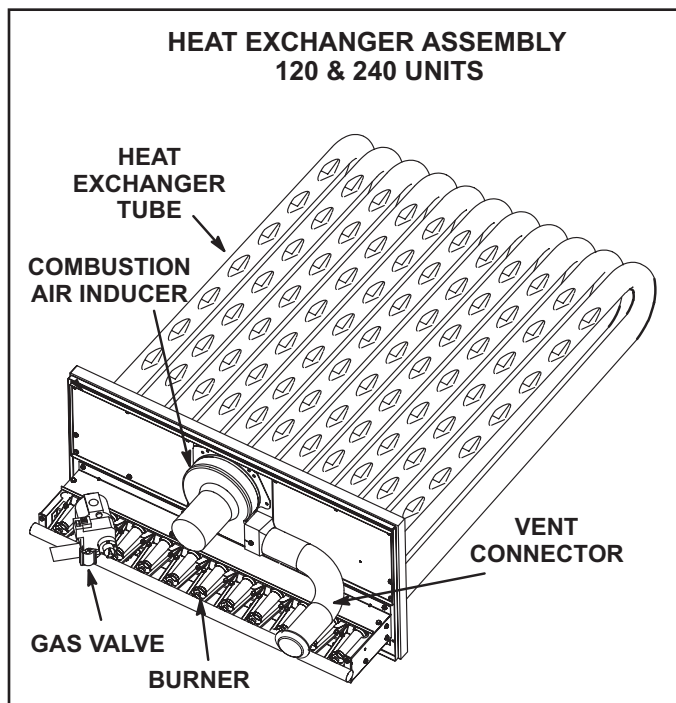
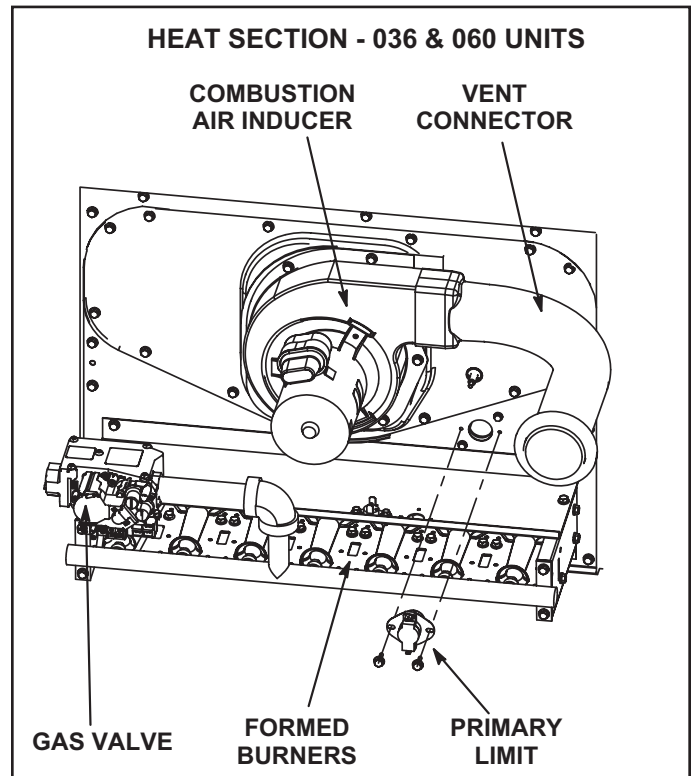

FIGURE 3
FIGURE 4
Annually, before heating season, inspect the combustion air louvers, vent cap, heat exchanger, burners and combustion air inducer for corrosion, deterioration or deposits of debris. Remove any obstructions or blockage. See Figure 3 and Figure 4.
- 3 - Remove and retain the screws securing the combustion air inducer to the flue box. Remove and retain two screws from bracket supporting the vent connector. See Figure 3 or Figure 4.